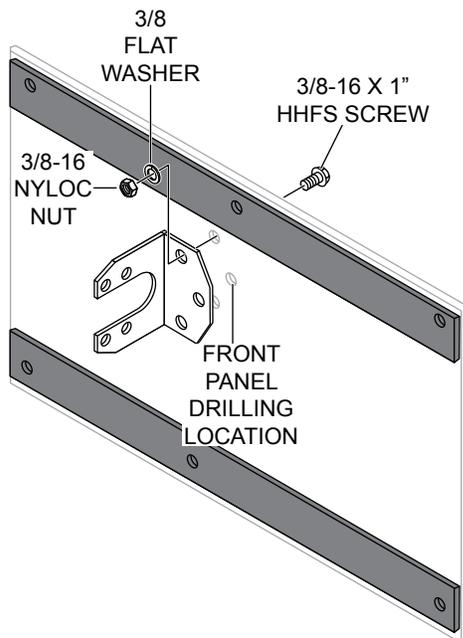

Figure 5. Securing Mounting Bracket To Panel
- Once positioned, mark the mounting bracket screw locations as shown in Figure 5.
- Using a 1/2" drill bit (Figure 5), drill out three holes per the marked mounting bracket screw locations.
- Using a 14mm socket, secure the mounting bracket to the front panel (Figure 5) using three HHFS 3/8-16 x 1" screws, 3/8-16 nyloc nuts, and 3/8 flat washers.